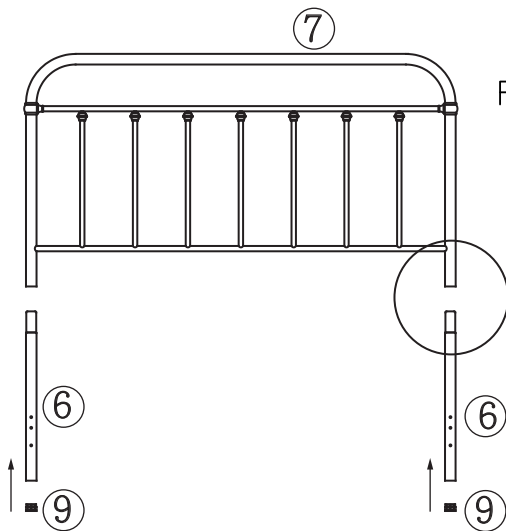

FIGURE 1
- Insert plastic glide (9) into bottom of leg extensions (6). Align top reduction of extension legs (6) with bottom of headboard posts. (See Figure 1).
- Now carefully insert extension legs (6) into bottom of headboard (7) posts and secure it with two screws (10).